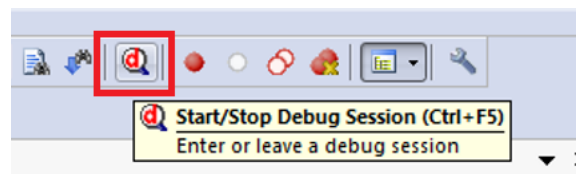

Figure 2.6: Keil IDE: Start/Stop Debug Session Button
3. Click the Start/Stop Debug Session button or press Ctrl-F5 to enter the simulator (see Figure 2.6).
7. Click the Start/Stop Debug Session button or press Ctrl-F5 to exit from the simulator (see Figure 2.6).
3. Click the Start/Stop Debug Session button or press Ctrl-F5 to enter a debug session (see Figure 2.6). This target uses the hardware ULINK2/ME Cortex Debugger. Note you should not click the Download button to load the code to the board. When you start a debug session, the debugger initialization file (i.e. `RAM.ini`) will execute the `LOAD` command to load the code to the board.
7. Click the Start/Stop Debug Session button or press Ctrl-F5 to exit from the debug session (see Figure 2.6).